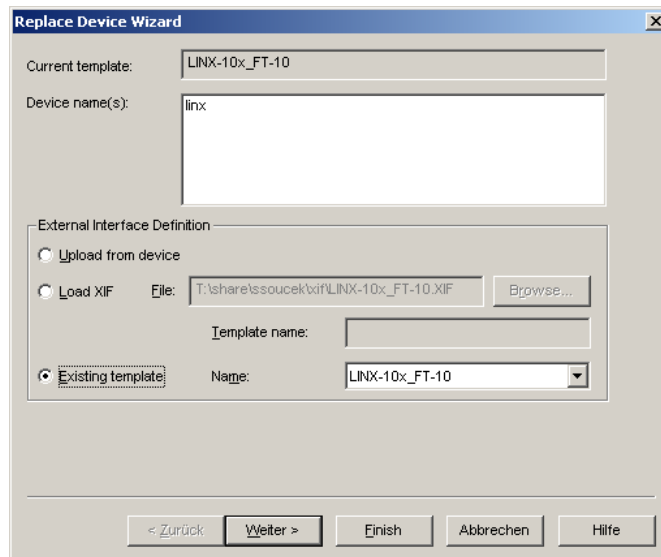

Figure 162: LonMaker replace device wizard.
2. Select **Commissioning** → **Replace....** This opens the LonMaker Replace Device Wizard as shown in Figure 162.